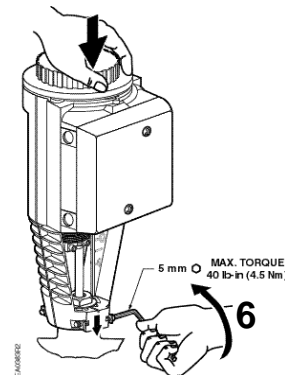

Figure 7.
**NOTE:** Position the actuator to accommodate the wiring. Hold the actuator in place while tightening the yoke nuts. See Figure 7.